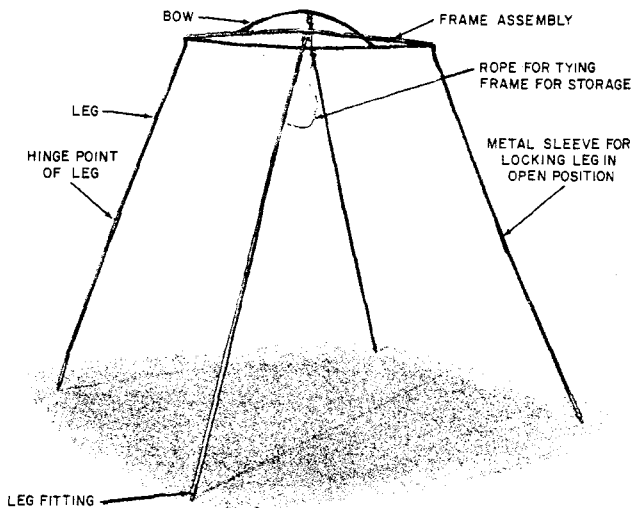

Fig. 2 — Ground Tent Frame
2.04 The tent frame (Fig. 2) is constructed of 1/2-inch galvanized iron pipe. Four legs, hinged at about the midpoint to permit folding for storage, are attached to the corners of a square frame assembly that supports the top of the tent. The square frame assembly has a cen-